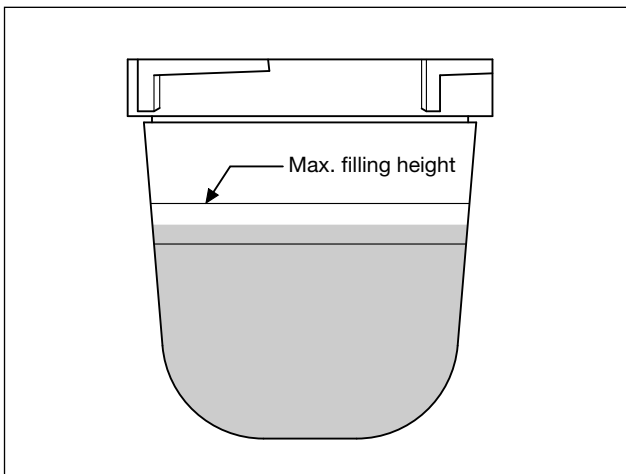

Fig. 5 Refill powder
- ② Refill powder to the filling height shown (Fig. 5) and insert and twist the powder glass again.